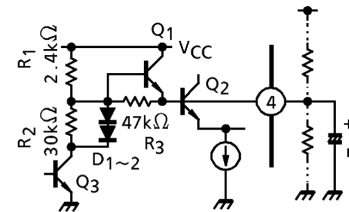

Fig.1 Internal circuit of pin④
Internal circuit of pin(4) is shown in Fig.1. Ripple filter output voltage is decided by internal resistor R1, R2 and Q3, and limited by D1~2 and Q3 to $V_{RF} = 1.5V$ (typ.)